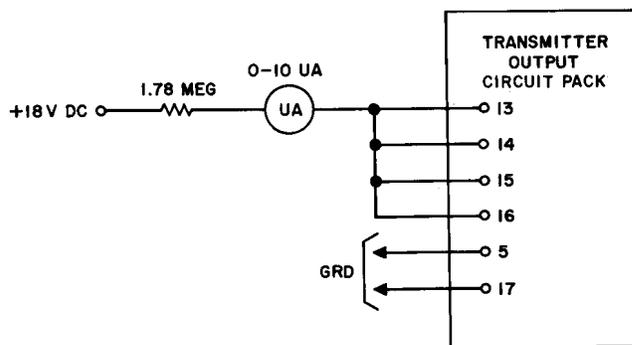

Fig. 28A — Transmitter Output Test
(2) The resistance between screw terminal 4 and circuit pack plug pin 20 shall be 2940 ohms (±5 percent).
(3) Insert a strap between terminals 1 and 4.
5.07A Diode Leakage Test: Connect ground to terminals 5 and 17. Connect +18.0 (±0.5) Vdc in series with 1.78-meg resistor to terminals 15, 16, 13, and 14 as shown in Fig. 28A. The current drawn from the +18 volt supply shall be less than 0.2 μA dc.